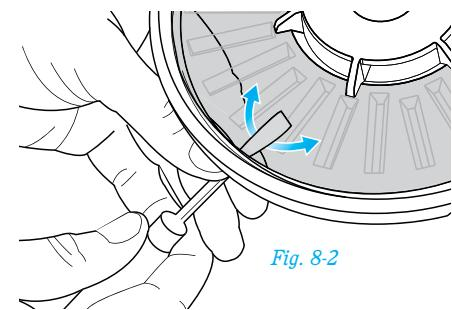

Fig. 8-2
**See fig. 8-2.** Once the tool has an edge you are satisfied with, you can stop sharpening. You can also mount the Micro-Mesh™ wheel to hone a mirror polish on your tools if you desire.